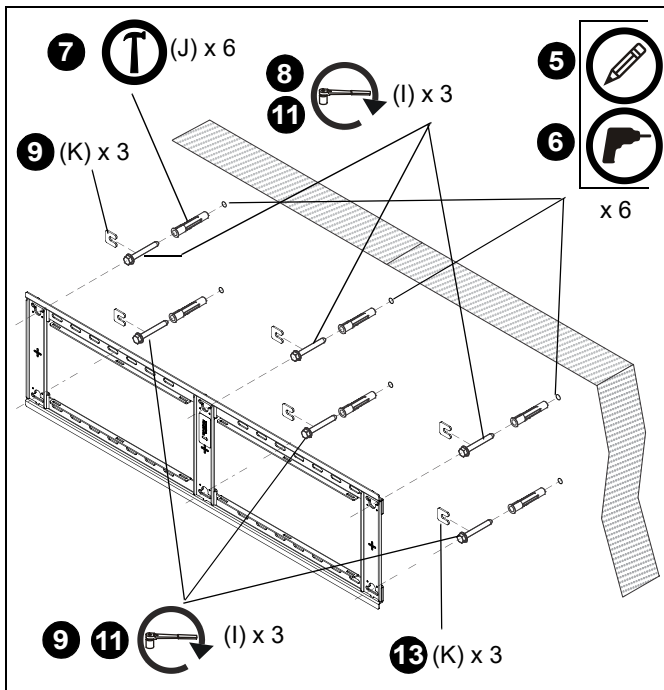

Figure 8
2. Line up the horizontal slots on mount (U) with center of screen marking to determine vertical center. (See Figure 8)
5. Using a level, mark the wall through all three upper and three lower mounting slots. (See Figure 8)
6. Remove mount (U) from wall and drill one 3/8" x 3-1/2" (9.5mm x 88.9mm) pilot hole at each marking (six total).
7. Install an anchor (J) into each pilot hole using a hammer, making sure that the anchor is flush with the wall.
8. Replace mount (U) on wall and partially install three 5/16 x 2-1/2" flanged lag bolts (I) into upper anchors but do not tighten to wall.
9. Partially install three 5/16 x 2-1/2" flanged lag bolts (I) into lower anchors but do not tighten to wall
10. Place one slotted washer (K) over each flanged lag bolt. (See Figure 8)
11. Tighten lag bolts to secure mount (U) to wall at upper mounting slots.
12. Slide mount (U) to approximate center of screen location.